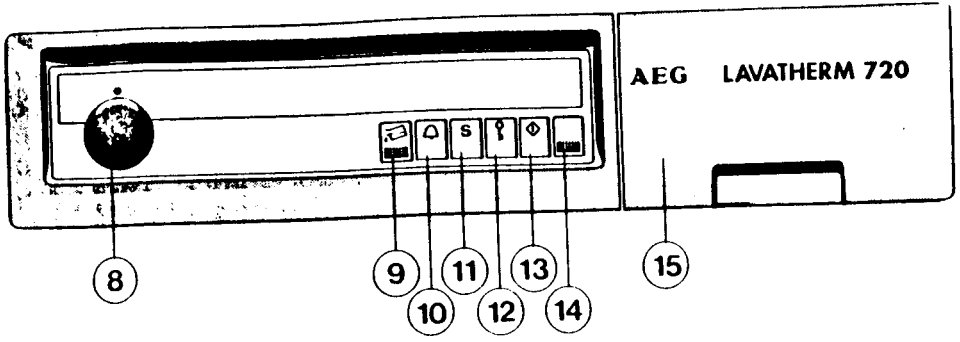

Fig. 4
- Fig. 4/⑧ Drying time selector
- Fig. 4/⑨ "Empty condensed-water container" indicator
- Fig. 4/⑩ Acoustic "programme end" signal
- Fig. 4/⑪ Button for temperature sensitive fabrics
- Fig. 4/⑫ Door release button
- Fig. 4/⑬ Start button
- Fig. 4/⑭ Pilot light
- Fig. 4/⑮ Condensed-water container
(Fig. 4/⑧)
(Fig. 4/⑫)